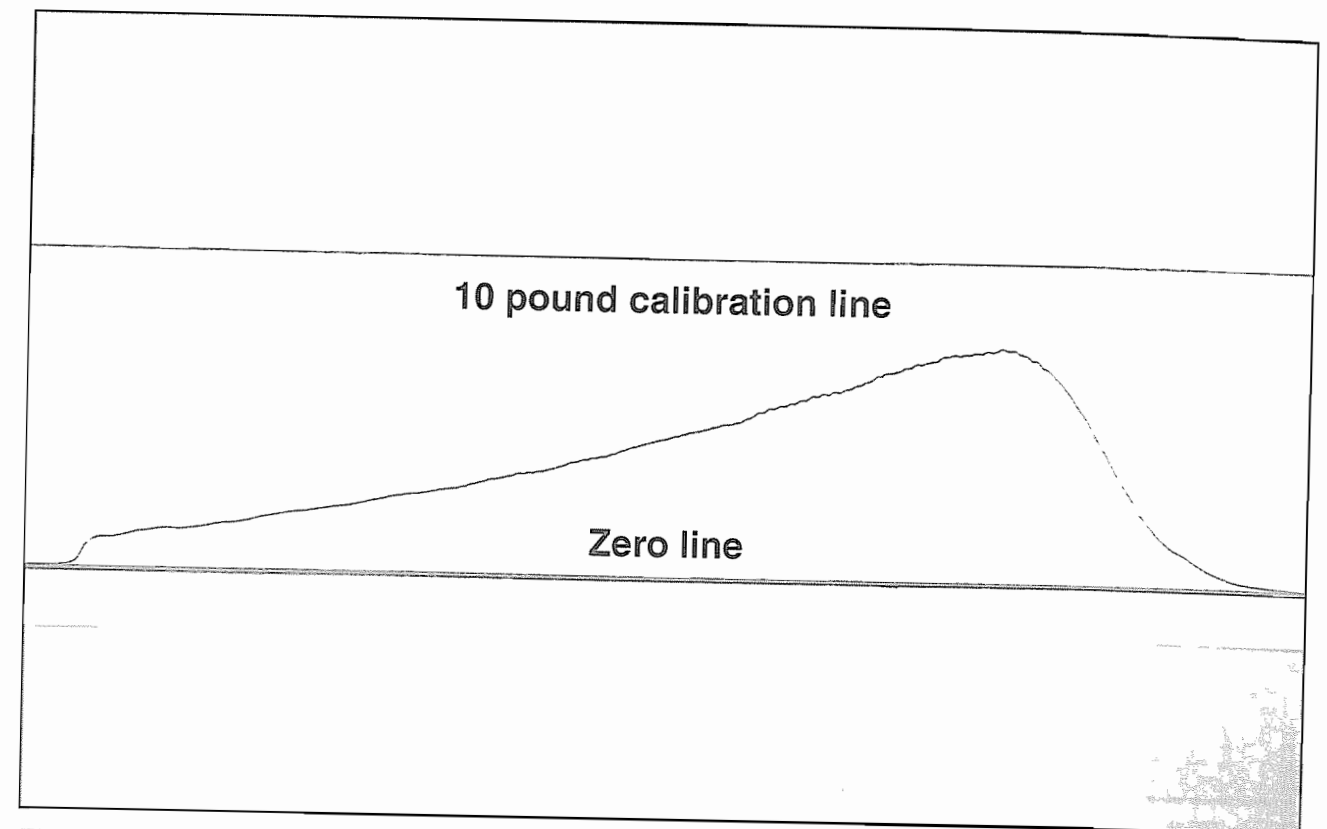

Figure 18-26. The raw thrust-time curve of the experimental rocket motor, as generated by the homemade chart recorder.
2. Turn off the chart drive. Rotate the drum away from the pen, and remove the calibration weight (the sand-filled bucket, the hooks, and the chain). Insert a properly wired electric igniter into the rocket motor's nozzle. Rotate the chart drum back into place against the pen. Move back to a safe distance. Turn on the chart drive, fire the rocket motor, and wait for the thrust arm to come to rest. As the chart drum turns, the motion of the pen against the also-moving paper will generate an accurate thrust-time curve (**Figure 18-26**). Turn off the chart drive. Rotate the chart drum *away* from the pen, and cap the pen. Then remove the paper strip from the chart drum, and take it to your desk for analysis.
4. Draw a horizontal and a vertical axis on a sheet of quadrille-ruled graph paper, so that they intersect like the ones in Figure 18-30. The graph paper should be ruled in **tenths of an inch**. Then *carefully* trace the chart's thrust-time curve (Figure 18-26) onto a separate sheet of *tracing* paper, and be sure to include the zero line and the calibration line.